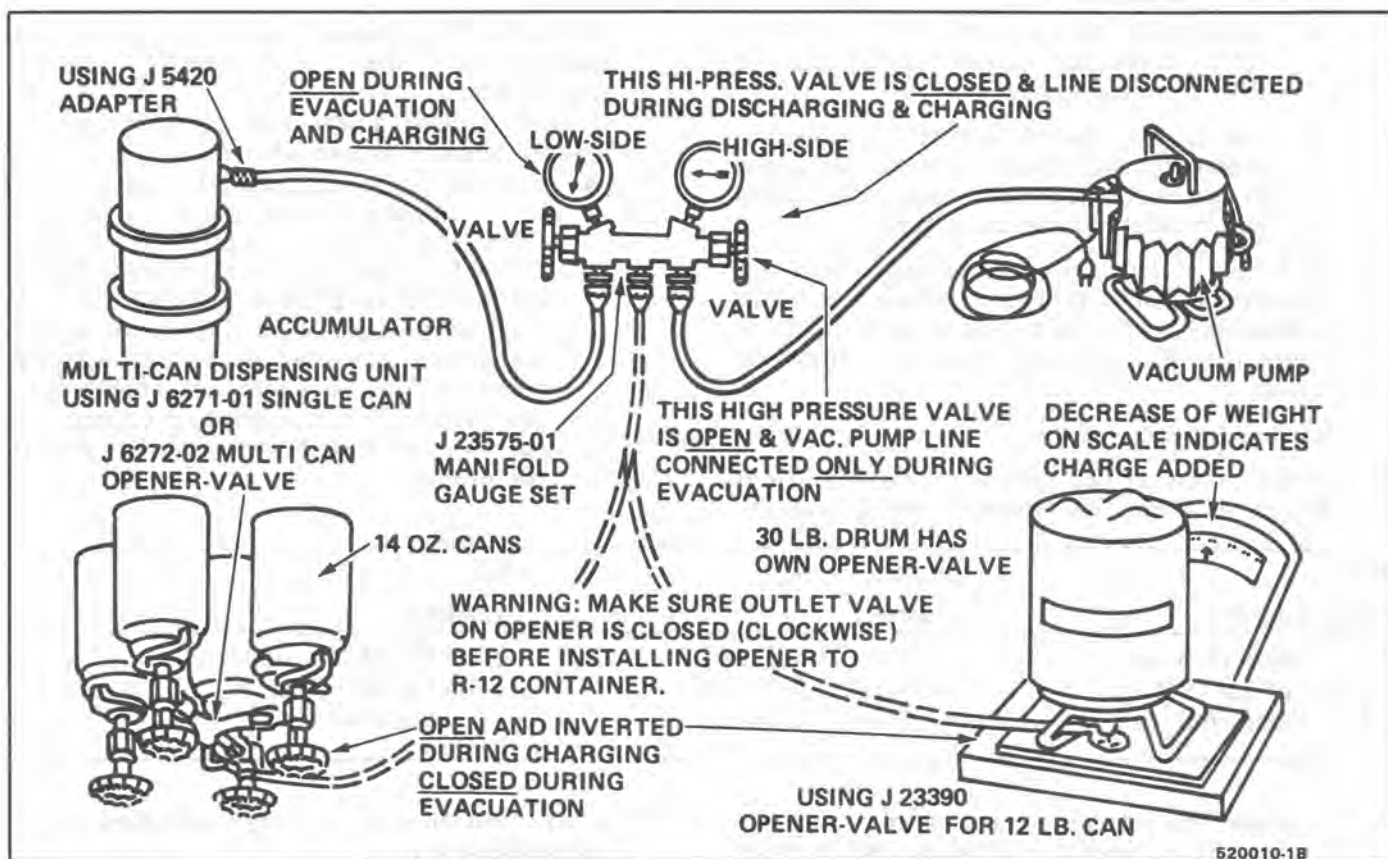

Fig. 18 Charging the System With Disposable Can or Drum
2. To begin evacuation of the A/C System with manifold gage set and vacuum pump as illustrated in Fig. 18, slowly open high- and low-side gage valves and begin vacuum pump operation. Pump the system until the low-side gage reaches 711.2 - 736.6mm (28"-29") vacuum. Note that in all evacuation procedures, the specification of 711.2 - 736.6mm (28"-29") vacuum is used. This specification can only be reached at or near sea level. For each 304.8m (1,000 feet) above sea level, specification should be lowered by one inch vacuum. At 1524m (5,000 feet) elevation, only 584.2 - 609.6mm (23"-24") of vacuum is required.